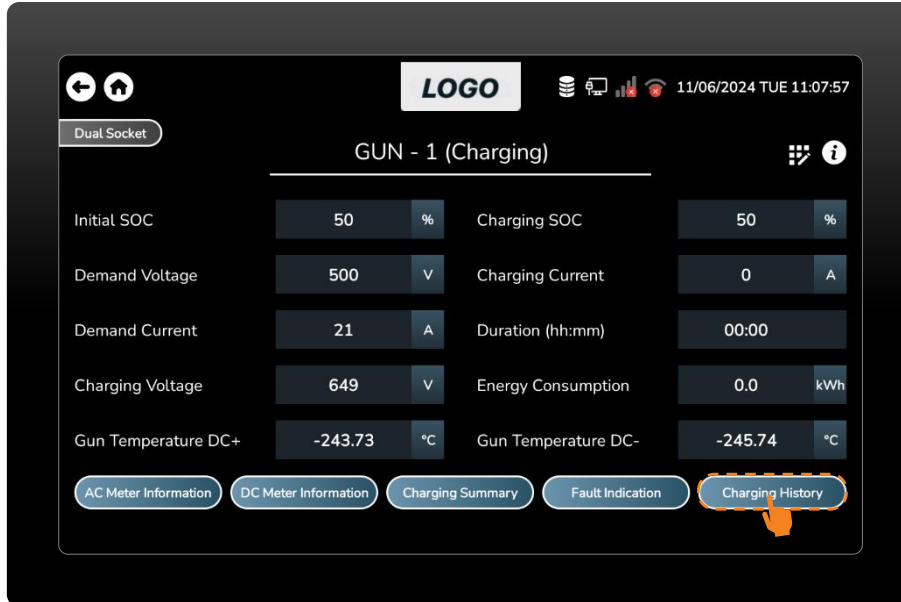

Figure 80 Press the Charging Summary Button.
- To get information about the previous charging history, press the charging history button. (Figure 80)